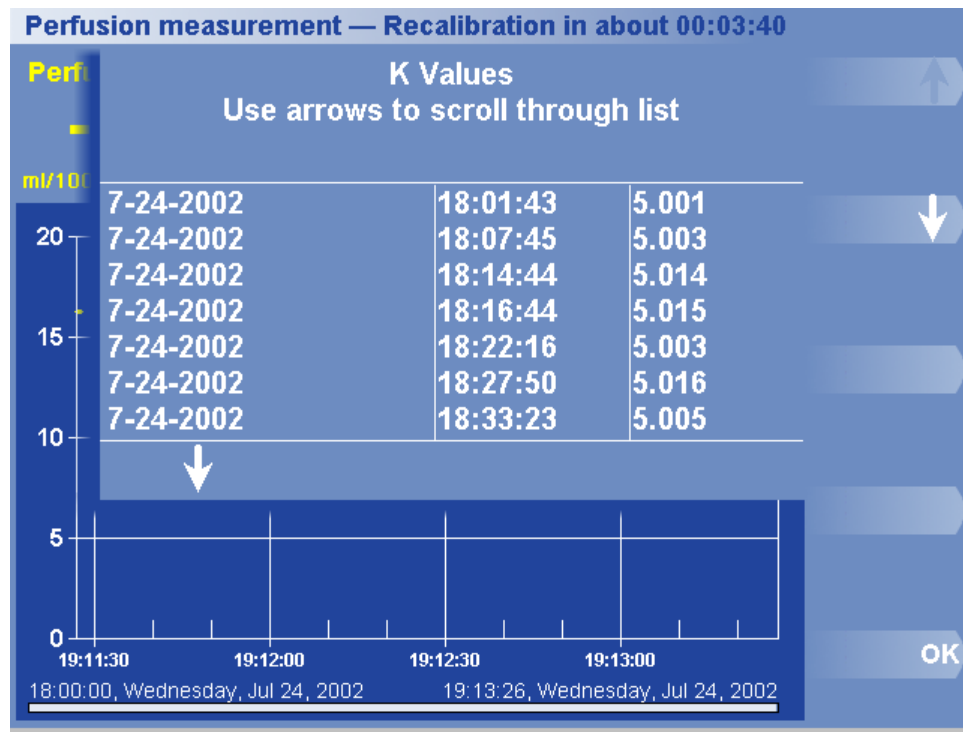

Figure 36. List K Values Dialog Box and Menu
1. Press Options > View Data > Select Plots & List K -> List K. The List K dialog box appears (Figure 36). The list shows the date and time each value of K was recorded.